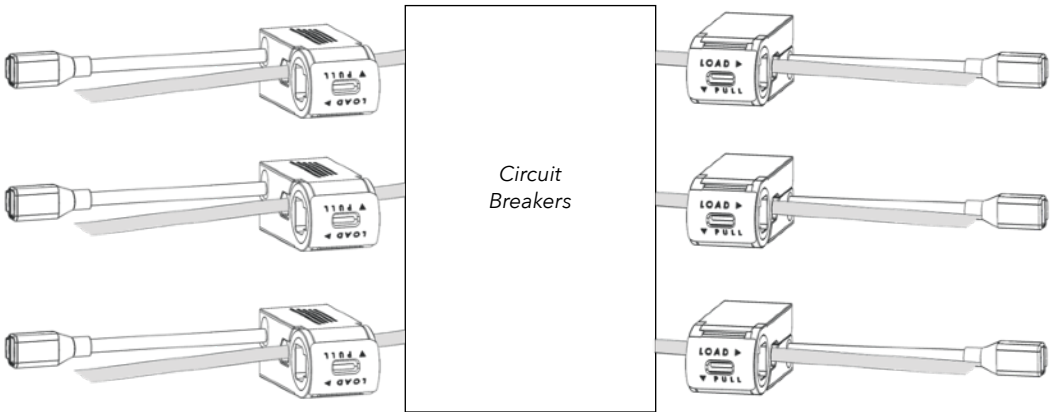

Fig 15
3. Close CT loop by snapping CT ends together. It may be easier to close CT by pulling plastic tab with one hand while applying pressure on CT top & bottom surfaces with the other hand. **Fig 15**.